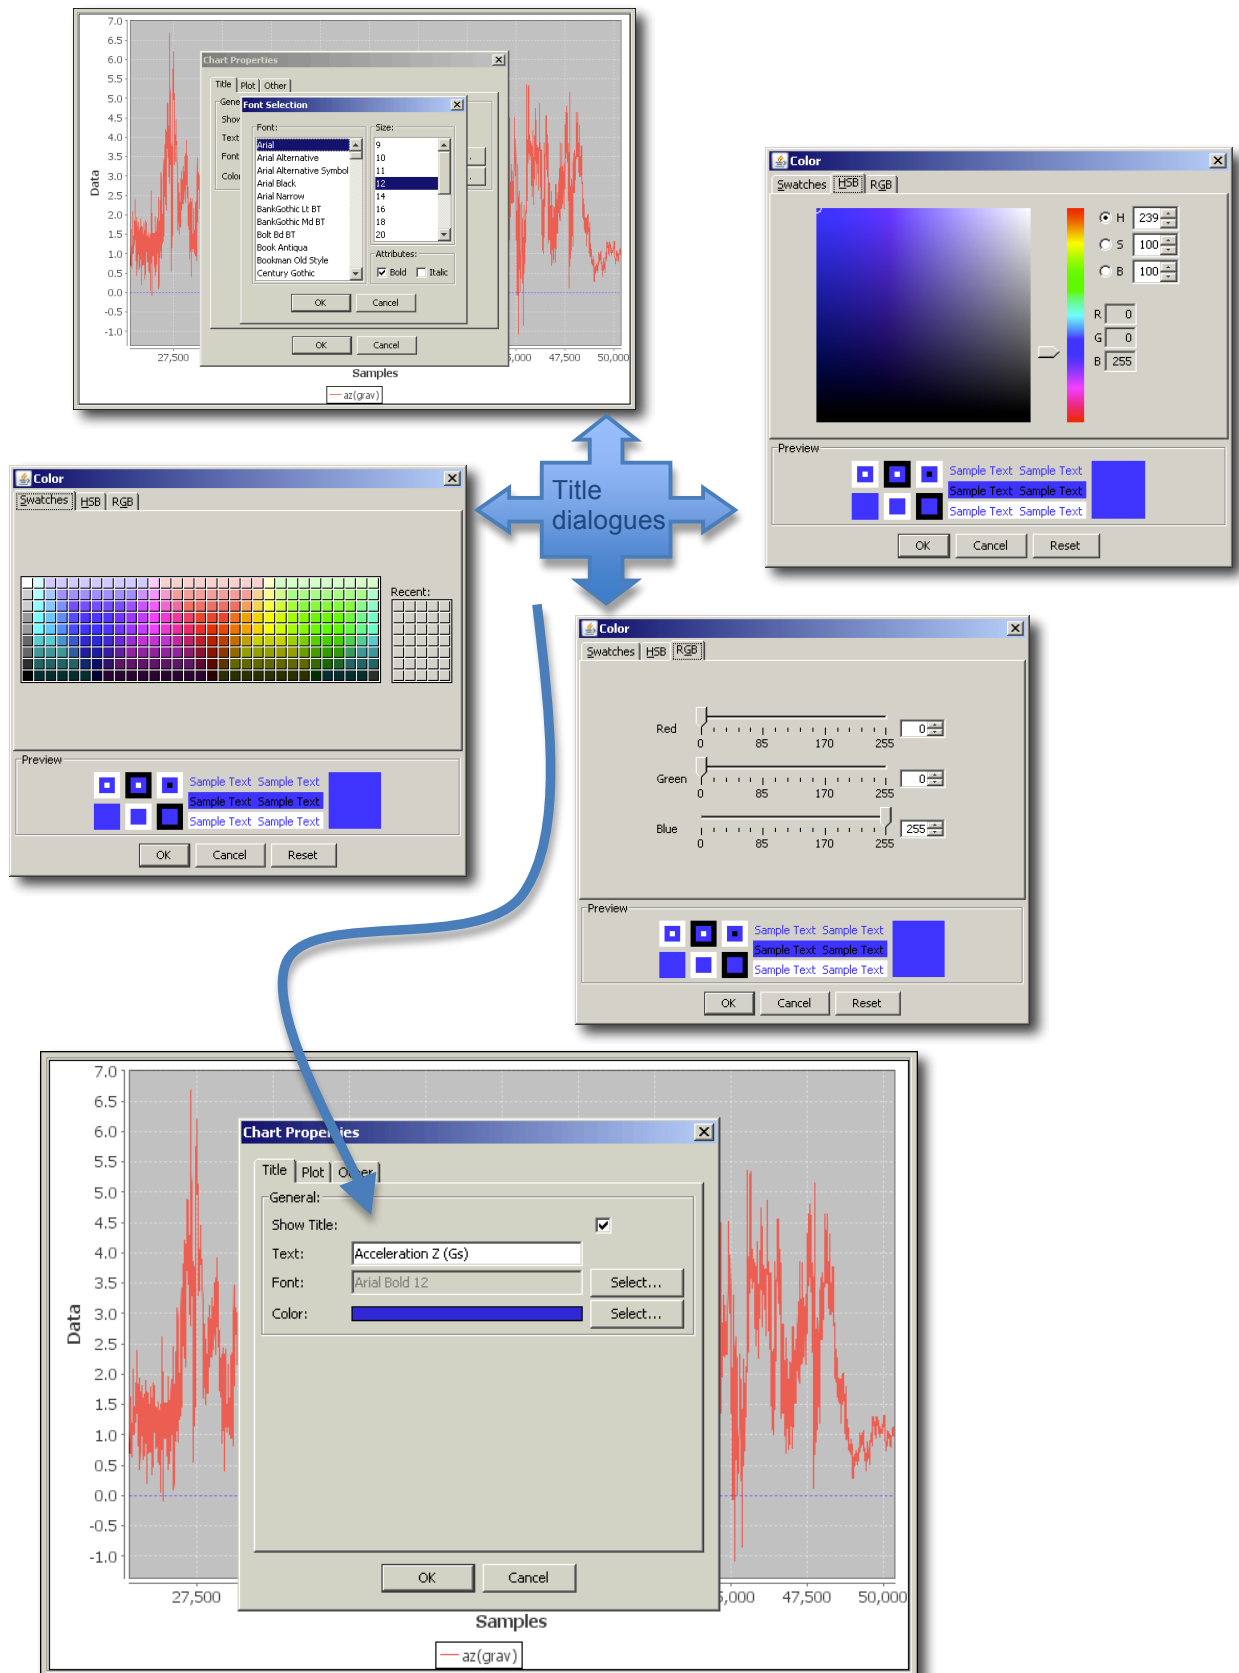

Figure 18
- The **font** and the **color** of the title can be changed easily with three different types of dialogues in figure 18: